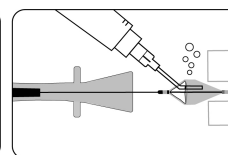

Figure 8
- Use the syringe with the flushing tip to remove any air bubbles from the Filtration Element. Place the white tip gently inside the Filtration Element and flush (Figure 8).